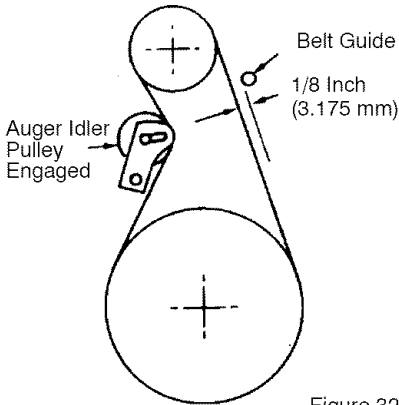

Figure 32
3. Measure the distance between the belt guide and belt. The distance should be 1/8 inch (3.175 mm) for guide. See Figure 32.